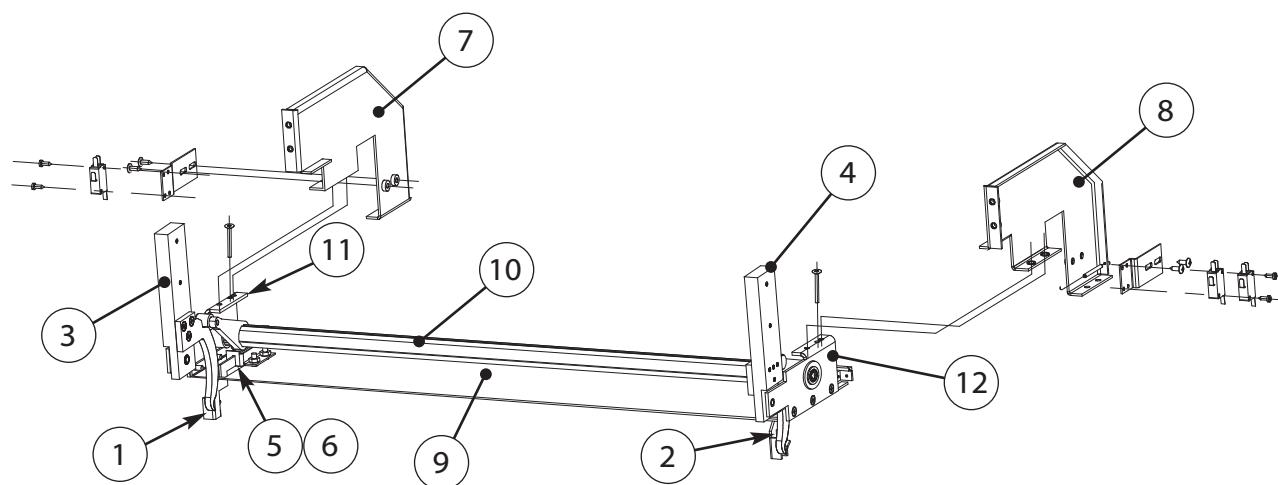

Figure A-11: Counter Balance Assembly, Hinge, and Switch Detail
* NOTE: For more interlock switch detail, see Figure A-11, page A-13.